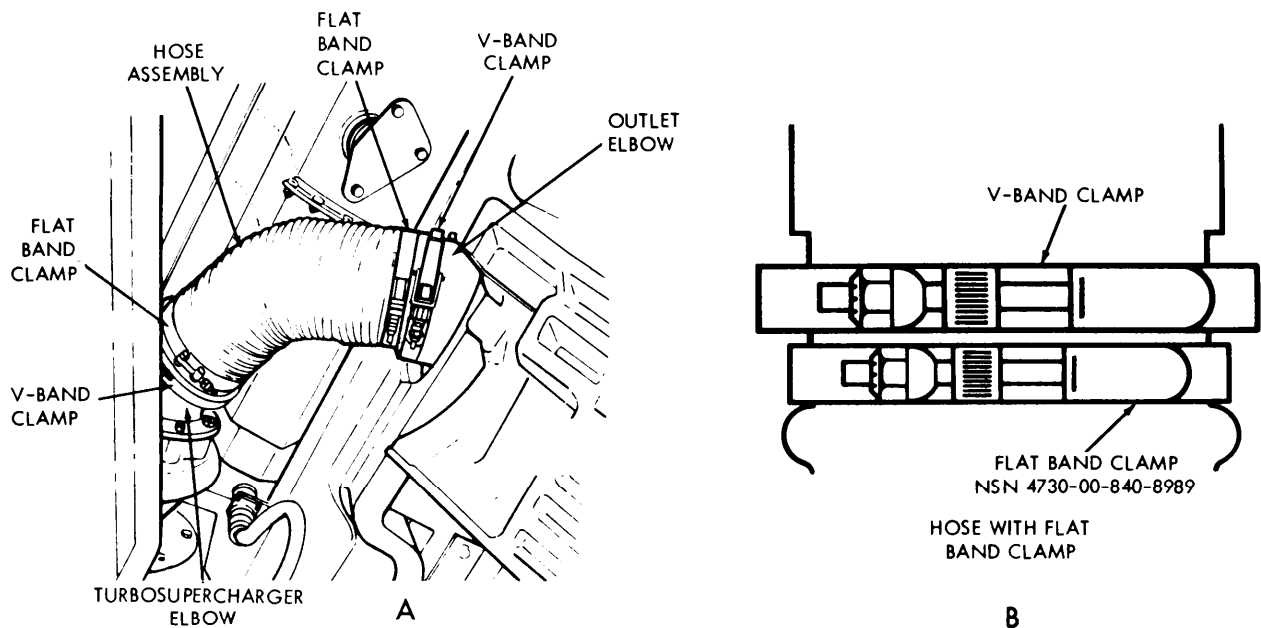

Figure 3-13. Air outlet hose replacement (V-band clamp).
(3) Outlet Hose (V-Band Clamp) (Fig. 3-13).